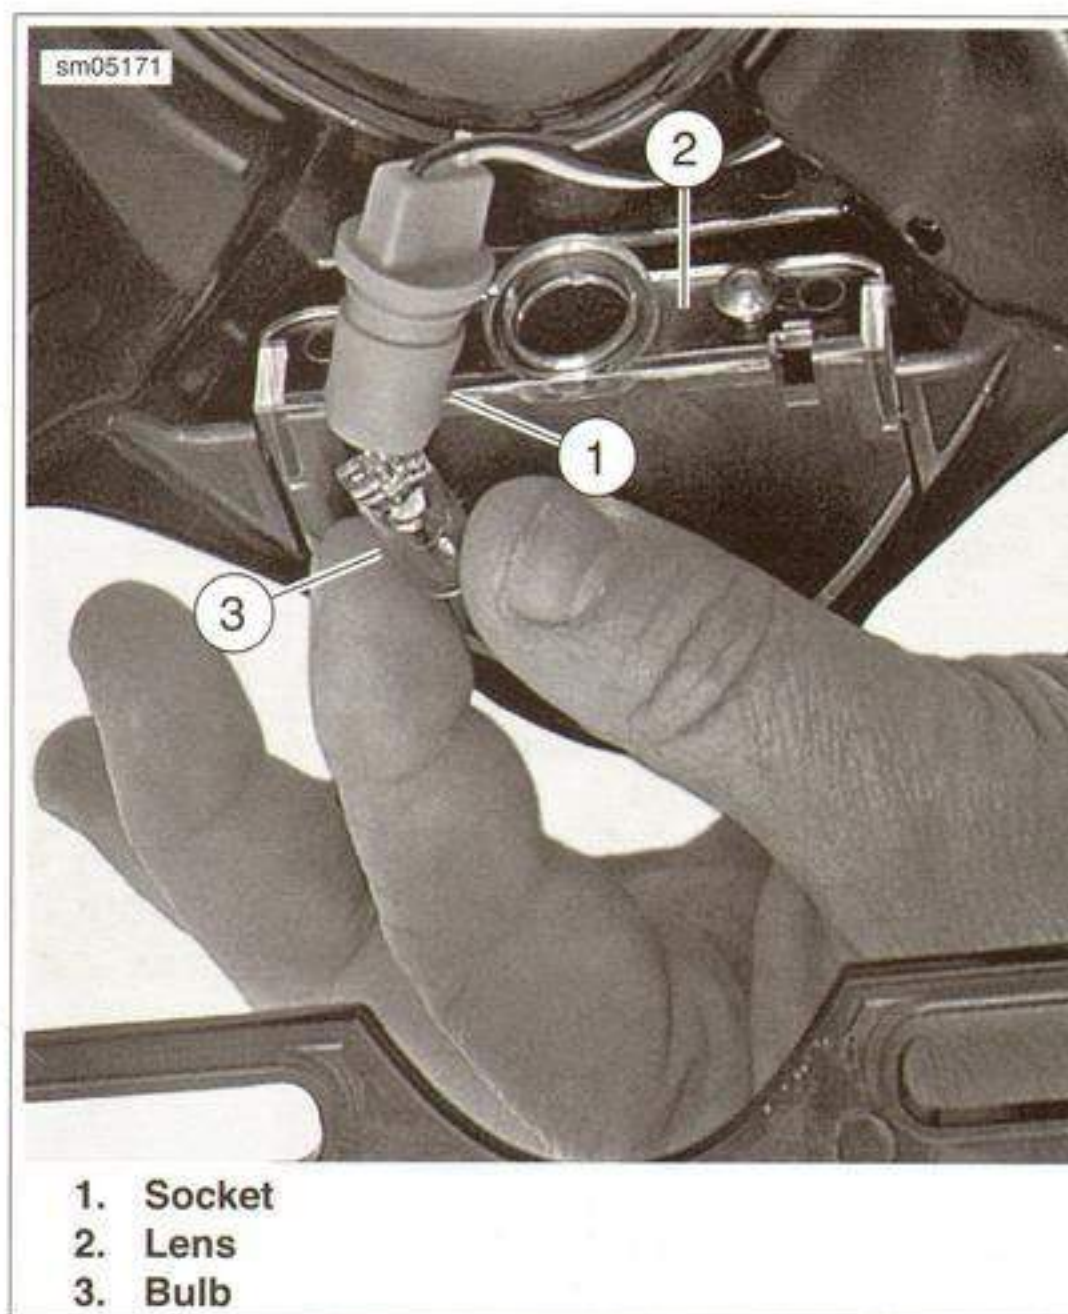

Figure 7-63. License Plate Bulb
1. See Figure 7-63. Pull socket (1) from lens (2).
2. Pull bulb (3) from socket.